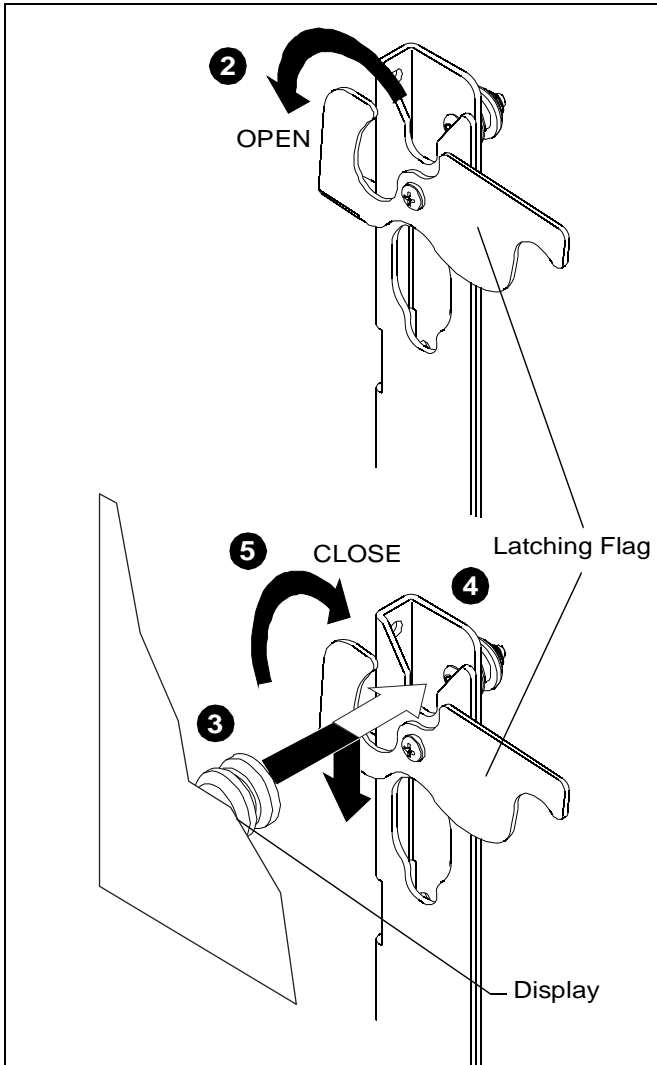

Figure 3
2. Verify latching flag is in the OPEN position. (See Figure 3)
5. Move latching flag to CLOSED position to secure display on accessory. (See Figure 3)